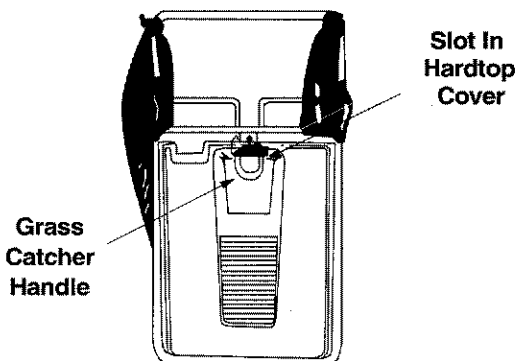

Figure 10
- Hold the bag and frame so the bag hangs from the frame (is not bunched around the frame). Slide the handle on the grass catcher frame down into the slot in the hardtop cover as shown in Figure 10.